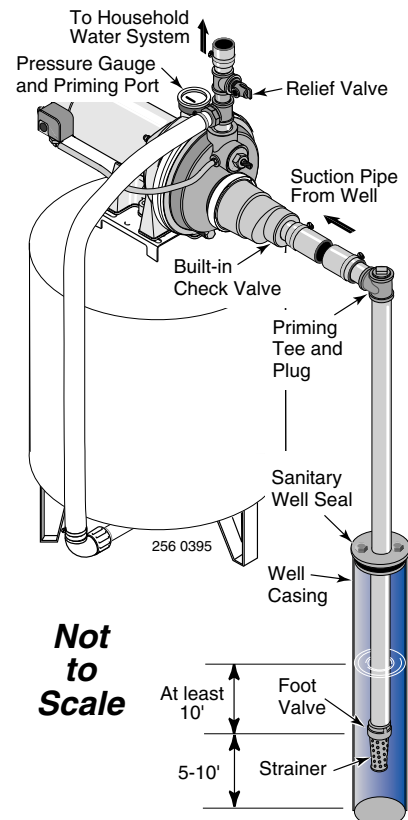

Figure 6: Cased Well Installation
CASED WELL INSTALLATION, 2" OR LARGER CASING (Figure 6)
4. Assemble the foot valve, strainer, and well pipe (see Figure 6). Make sure that the foot valve works freely.
6. Install a priming tee, priming plug, and suction pipe to the pump (see Figure 6). Connect the pipe from the well to the pump suction port, using the fewest